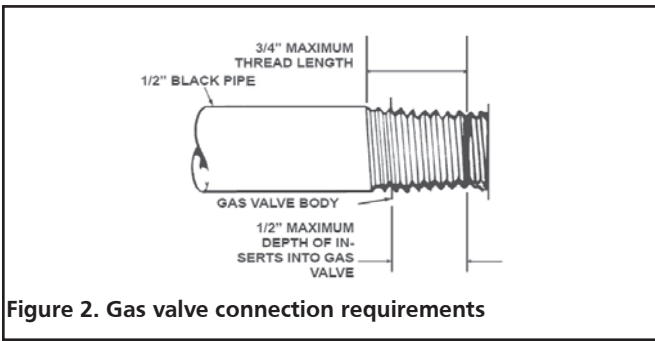

Figure 2. Gas valve connection requirements
- Male threads on pipe to be installed into gas valve shall meet the requirements of Figure 2. Threads longer than those shown in the figure may cause gas valve distortion and malfunction.